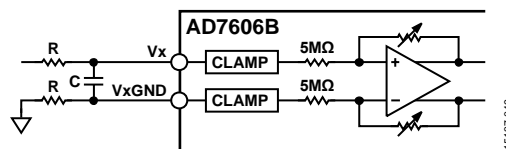

Figure 45. Input Resistance Matching on the Analog Input of the AD7606B
It is recommended to place a series resistor on the analog input channels to limit the current to  $\pm 10$  mA for input voltages greater than  $\pm 21$  V. In an application where there is a series resistance (R) on an analog input channel,  $V_x$ , it is recommended to match the resistance (R) with the resistance on  $V_x$ GND to eliminate any offset introduced to the system, as shown in Figure 45. However, in software mode, there is a per channel system offset calibration that removes the offset of the full system (see the System Offset Calibration section).